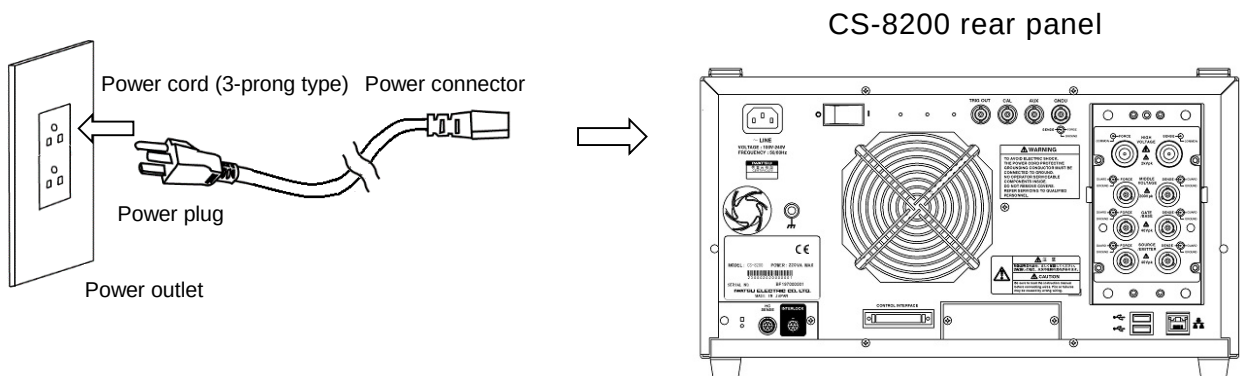

Figure 3.1: Power cord connection (CS-8000 Series)
- ① Insert the power connector of the supplied power cord into the AC LINE INPUT terminal for connecting the power cord on the rear panel (see Fig. 3.1).
- ② Connect the power plug of the power cord to the power outlet (see Figure 3.1).